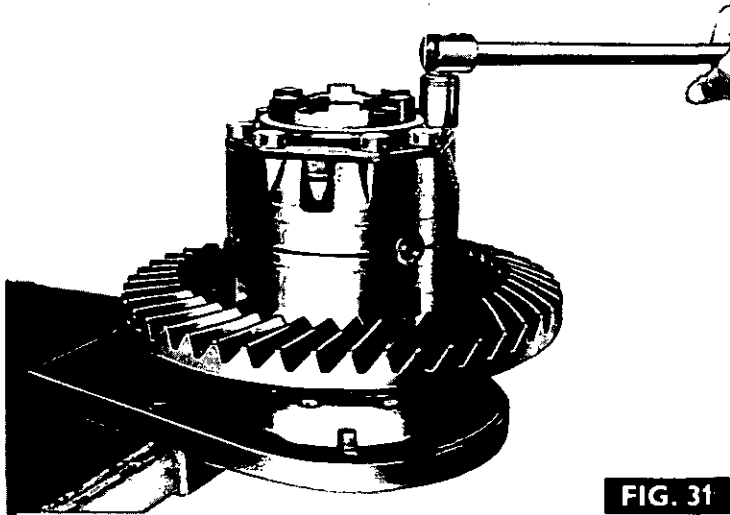

FIG. 31
3. Fig. 31. Place the differential on the adapter as shown, then remove the eight bolts securing the R.H. case and the differential lock coupler cap (33).